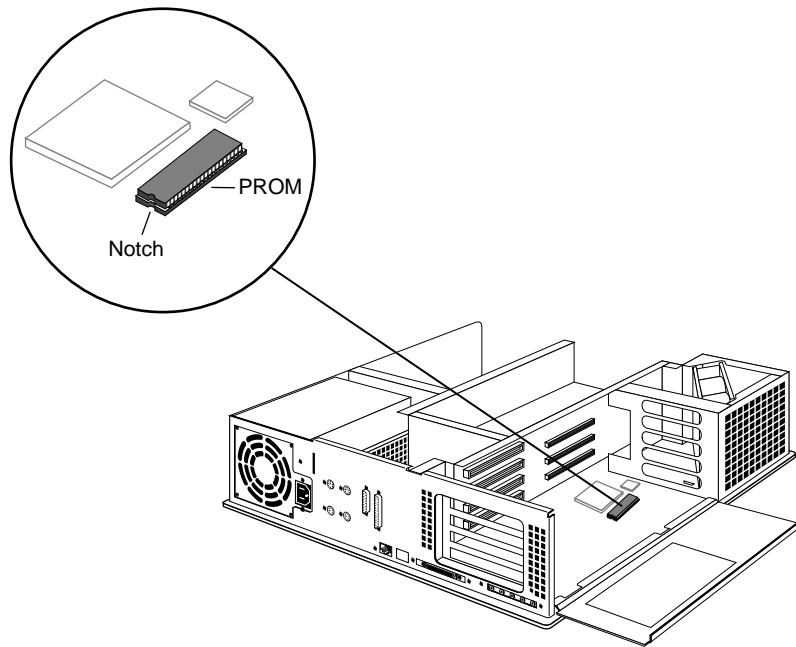

Figure 1 Locating the PROM Chip on the System Board
1. Locate the PROM chip. The PROM chip is located in a socket on the system board, below the slot from which you removed the graphics board, as shown in Figure 1.
2. Before removing the PROM chip, familiarize yourself with it. Note that it has a semicircular notch at one end, as shown in Figure1. You'll use this notch to orient the new PROM when you install it.